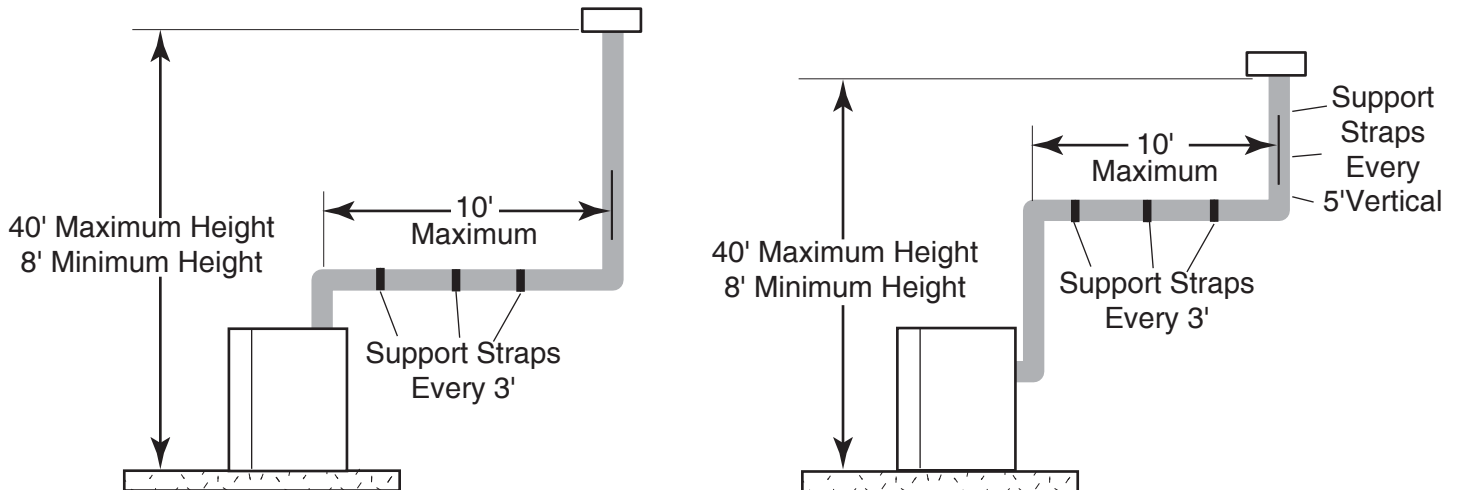

Figure 31 - Support Straps for Horizontal Runs
- Vertical installations up to 40' (12m) in height. Up to a 10' (3m) horizontal vent run can be installed within the vent system using a maximum of two 90° elbows. See Figure 31.